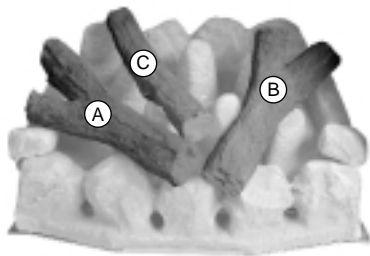

Fig. 41
5. Lay the logs in alphabetical order. It is important that the logs 'nest' together and sit on top of the fuel bed peaks (Fig. 41).